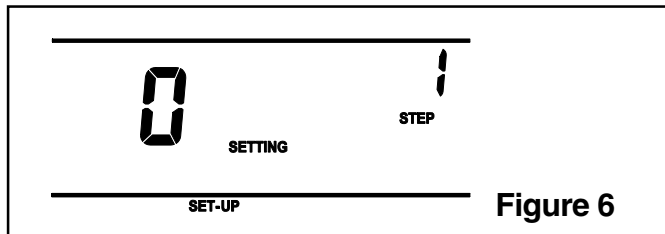

Figure 6
- 4.) SET-UP will appear on display. See Figure 6.